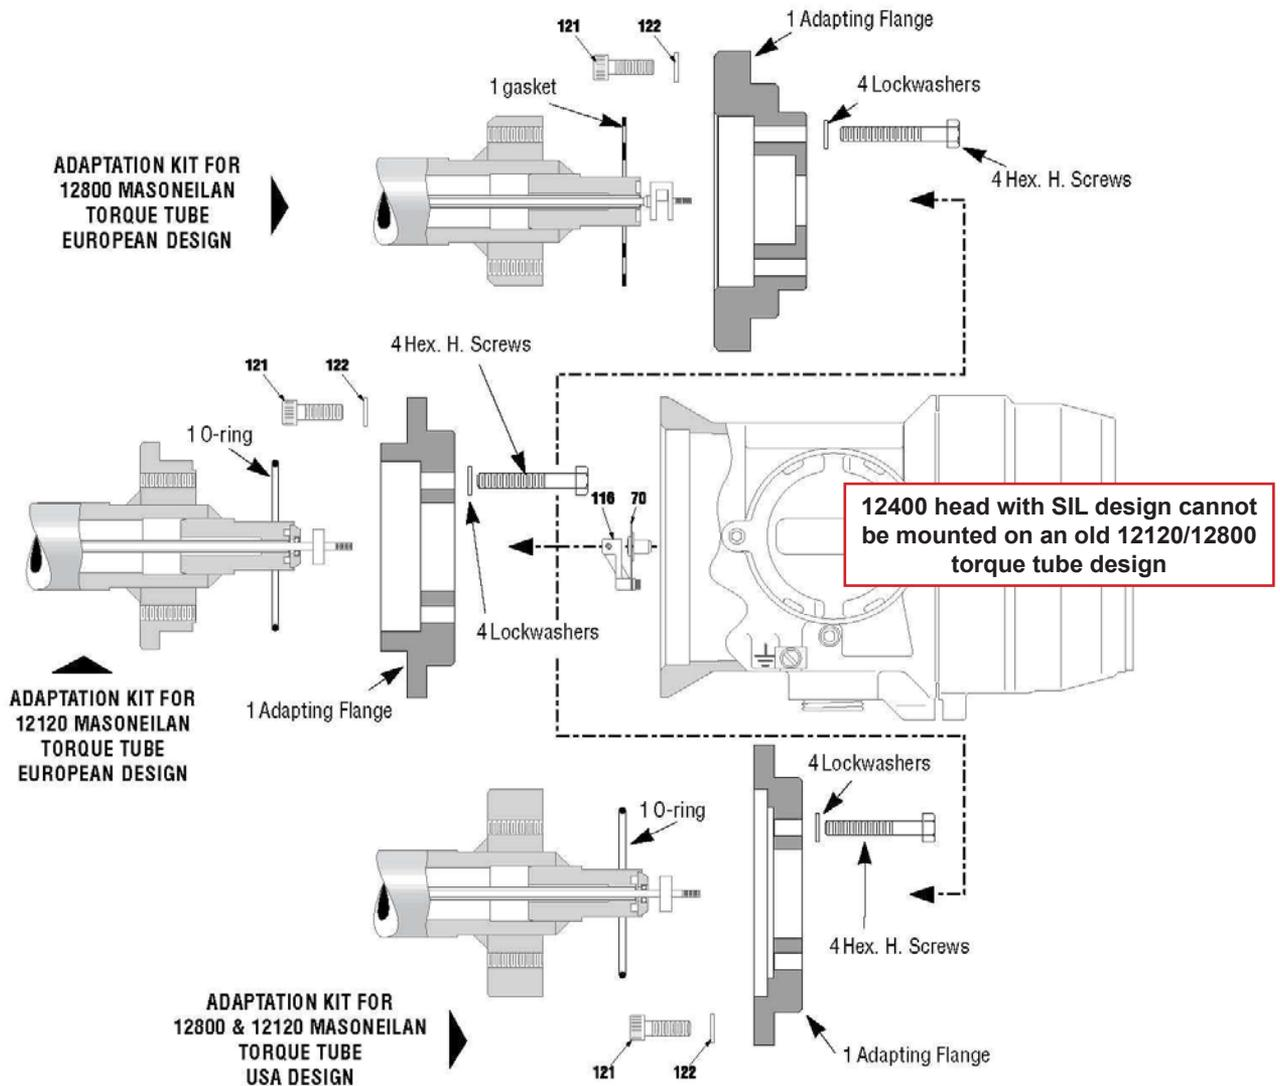

Figure 22 - Adaptation on 12800/12120 torque tube
- a. Switch off power supply. Unscrew safety screw (106) until it disengages from the case and remove the cover (104) of the connection compartment. Disconnect supply wires from terminals (90).
- b. Remove cover (107) of the mechanism compartment. Remove the spring arm (242) from the pin (243) on the beam to disengage and relax it.
- c. Using a 2.5 mm hex wrench, loosen screw (62) to uncouple the beam (54) from the torque rod.
- d. While holding the case to prevent it from falling, loosen the four screws (121), using a 5 mm hex wrench, and remove them along with the washers (122). Remove the case by pulling it along the axis of the torque tube while being careful to prevent from any deformation of the coupling flexure (70).
- e. If the original case or an identical one is reinstalled on the same torque tube, do not remove the coupling flange (116) from the torque rod. Also, do not disconnect the coupling flexure subassembly (70). As an alternative, loosen screws (119) using a 1.5 mm hex wrench and remove the coupling flange-flexure sub-assembly (116-70).
- f. If the torque tube is not dedicated to 12400 instrument, remove the DLT case adapter kit, if necessary. This kit includes a flange, a gasket, and screws, (see Figure 22).
## 9.2.2 On a 12120 or 12800 Series Torque Tube (Figure 22)